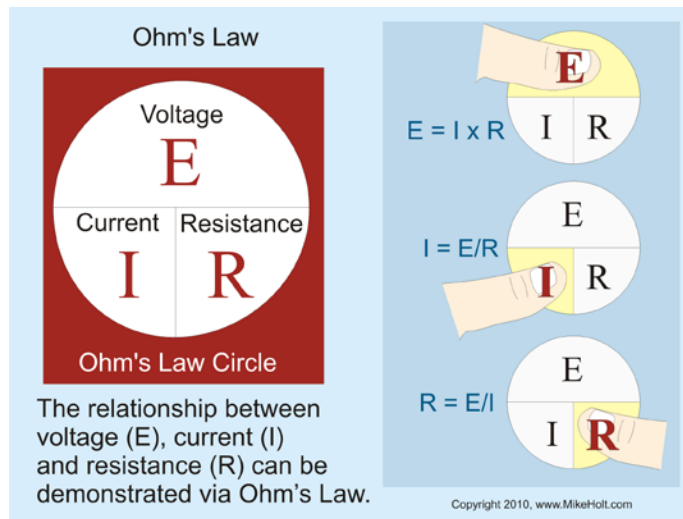

Figure 2-6
The relationship between voltage (E), current (I), and resistance (R) can be demonstrated via Ohm's Law. **Figure 2-6**